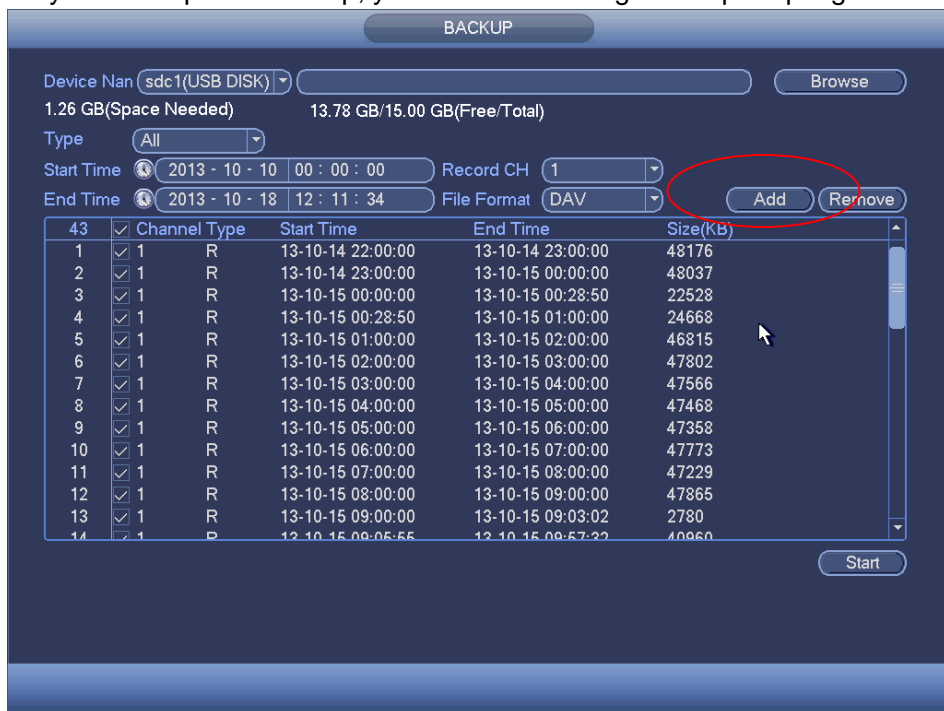

Figure 4-249
- d) Click add button, system begins search. All matched files are listed below. System automatically calculates the capacity needed and remained. See Figure 4-249.